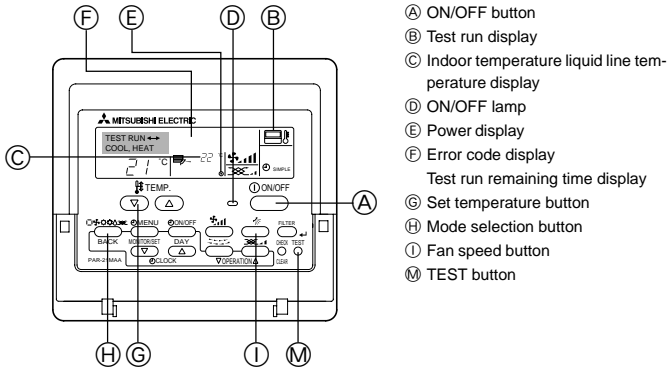

Fig. 7-1
7.2.1. Using wired remote controller (Fig. 7-1)
- ① Turn on the power at least 12 hours before the test run.
- ② Press the [TEST] button. ⇒ "TEST RUN" liquid crystal display
- ③ Press the [Mode selection] button. ⇒ Make sure that wind is blown out.
- ④ Press the [Mode selection] button and switch to the cooling (or heating) mode. ⇒ Make sure that cold (or warm) wind is blown out.
- ⑤ Press the [Fan speed] button. ⇒ Make sure that the wind speed is switched.
- ⑥ Check operation of the outdoor unit fan.
- ⑦ Release test run by pressing the [ON/OFF] button. ⇒ Stop
- ⑧ Register a telephone number.